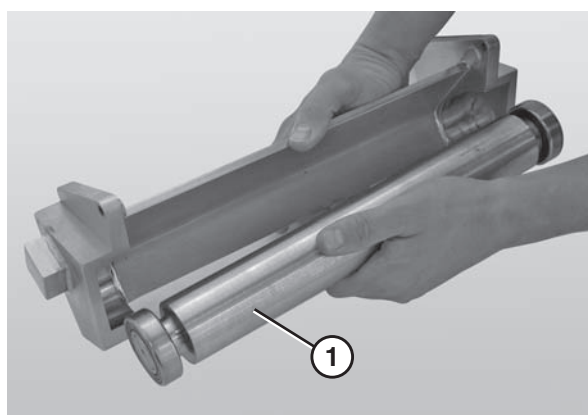

Figure 74
6. Remove the nose bar return spindle (**Figure 74, item 1**).